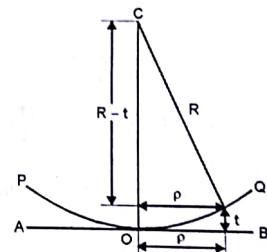

Fig. 1.9.2
- Let POQ be a plano-convex lens placed on a plane glass plate AB. Let R be the radius of curvature of the lens surface in contact with the plate. Fig. 1.9.2.
- From Fig. 1.9.2 we see that